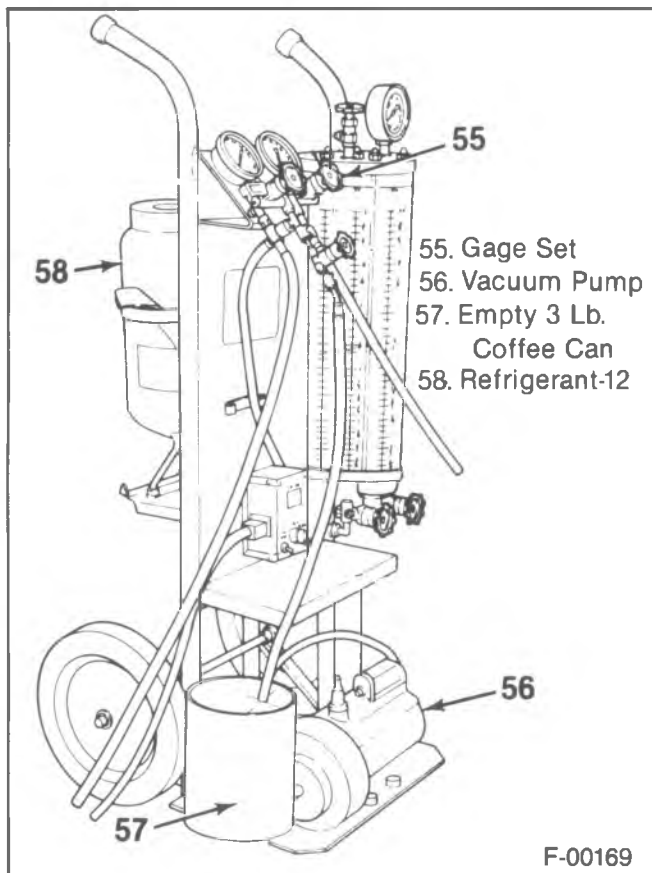

Figure 21—J-23500-01 Charging Station
Discharge, evacuate and charge using J-23500-01 air conditioning service Charging Station or the J-5725-04 Manifold Gage Set, and 0.397 kg. (14 oz.) disposable cans of Refrigerant-12 (figures 21 and 22).
2. With the ignition turned OFF, remove the protective cap from LOW SIDE service fitting and connect Charging Station J-23500-01 Gage Set. (Refer to figure 21).